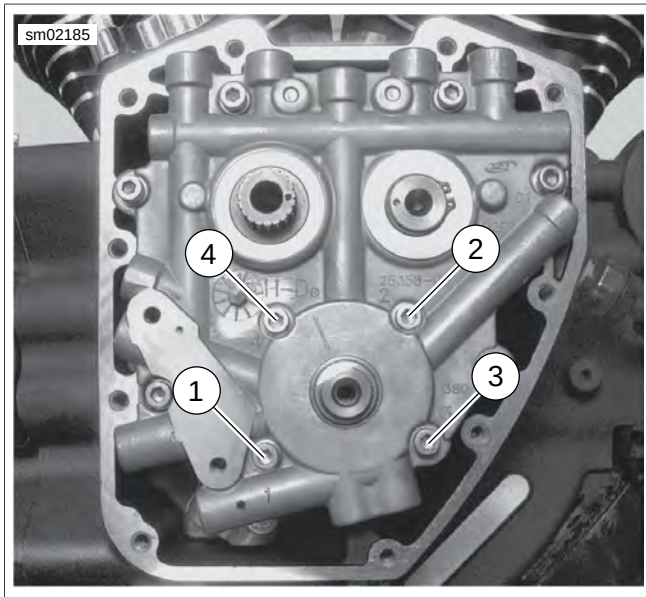

Figure 3-93. Oil Pump Torque Sequence
1. See Figure 3-93. Following the sequence shown, remove four socket head screws.